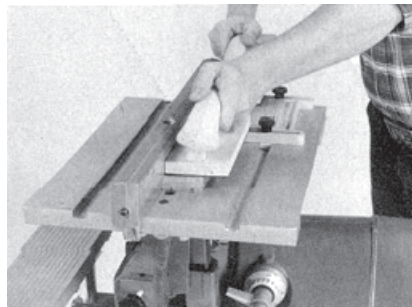

Fig. 1
2. Raise table to allow 3/32" of blade to project. Set the lock fence 1/4" away from blade. Place board's good face down on table and pass board over blade. Place other edge of board against fence and pass board over blade (see Fig. 1).